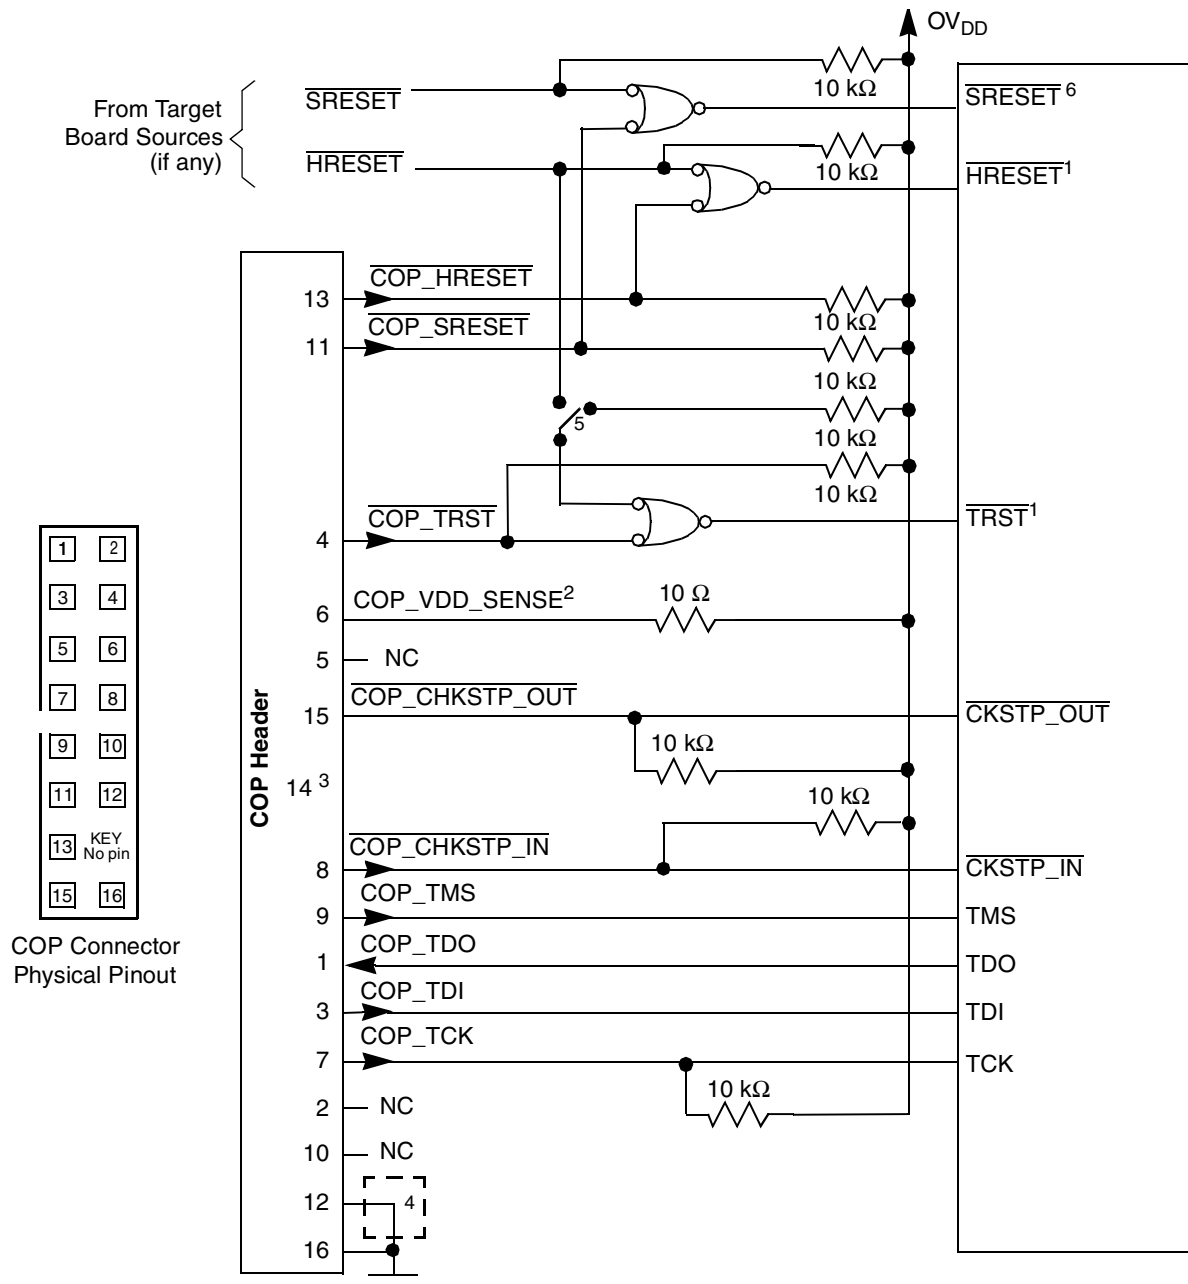

Figure 53. JTAG Interface Connection
Correct operation of the JTAG interface requires configuration of a group of system control pins as demonstrated in Figure 53. Care must be taken to ensure that these pins are maintained at a valid deasserted state under normal operating conditions as most have asynchronous behavior and spurious assertion give unpredictable results.
- $\overline{\text{TRST}}$  should be tied to  $\overline{\text{HRESET}}$  through a 0 k $\Omega$  isolation resistor so that it is asserted when the system reset signal ( $\overline{\text{HRESET}}$ ) is asserted, ensuring that the JTAG scan chain is initialized during the power-on reset flow. Freescale recommends that the COP header be designed into the system as shown in Figure 53. If this is not possible, the isolation resistor allows future access to  $\overline{\text{TRST}}$  in case a JTAG interface may need to be wired onto the system in future debug situations.